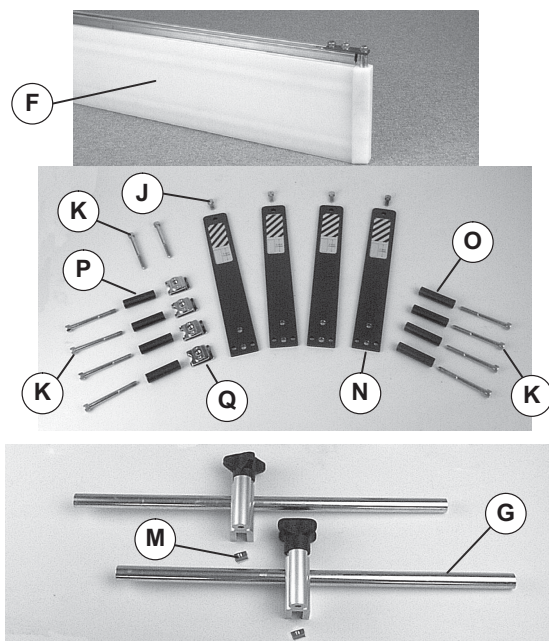

Figure 8
- Typical components (Figure 8)